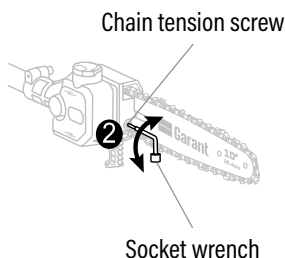

Fig. 16A
NOTE: If there is difficulty in removing the bar and chain from the mounting surface, place the pole saw upright, with one hand supporting the bar, and loosen the chain-tensioning screw counterclockwise with the other hand (Fig. 16A). Then, remove the bar with the chain.
2. Loosen the sprocket cover screw (Fig. 16A).